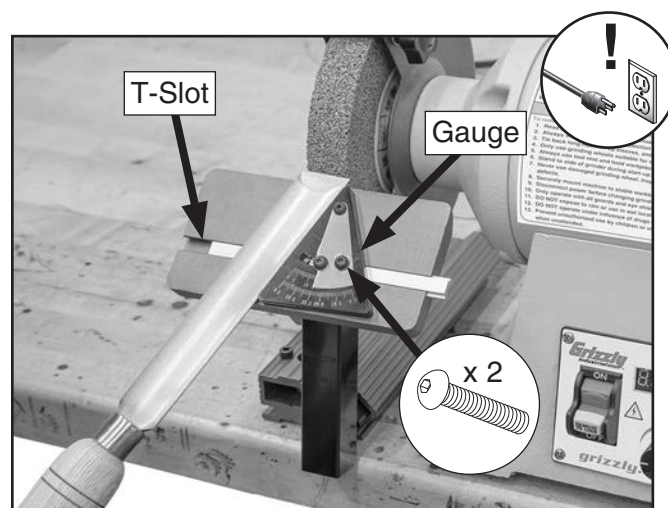

Figure 1. Angle gauge in use.
2. Place angle gauge in T-slot of T32732 table (see **Figure 1**).
3. Adjust gauge to desired bevel angle, then tighten (2) button head cap screws shown in **Figure 1** to secure.